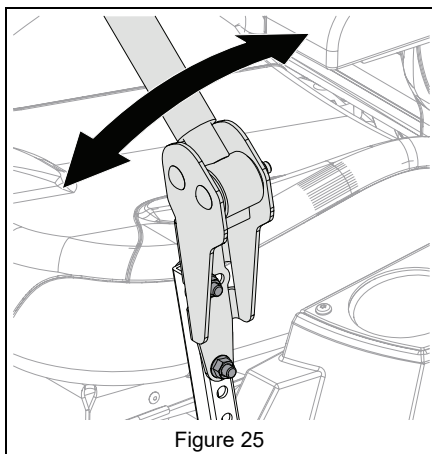

Figure 25
8. Loosen mounting hardware, align levers and tighten hardware. See Figure 25.